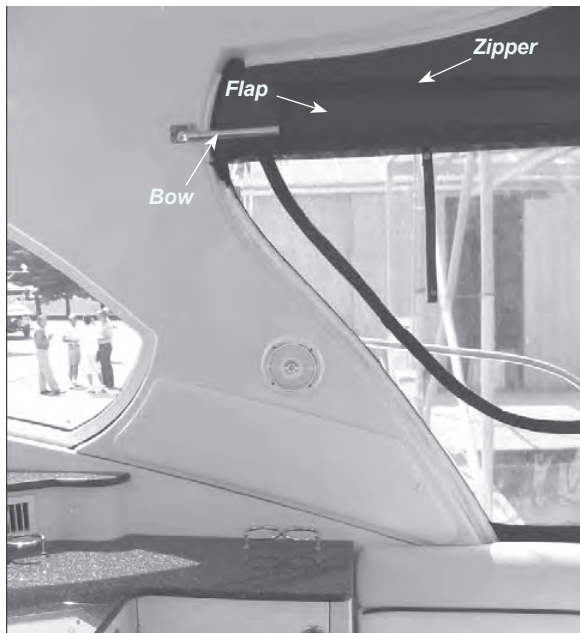

Figure O5: Zippered-Flap Portion of Canvas Top
- 5) Place the canvas top over the bow. Wrap the zippered-flap portion of the top around the bow and zip securely in place. See Figure O5.